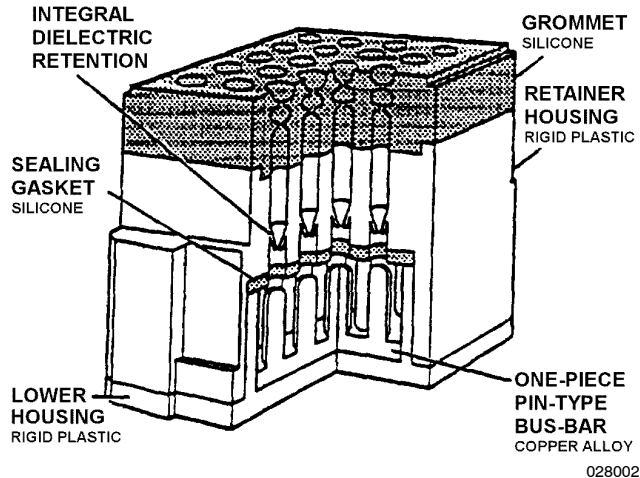

Figure 2. TJS Block
14. **BLOCK.** A block is one-connector receptacle with one or more modules. The internal structure of atypical block is shown in Figures 2 and 3.